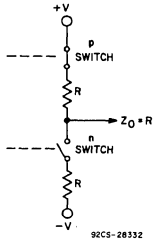

Fig. 3 — Constant output impedance of a buffered gate.
**Buffered**—Fig. 3 depicts the buffered output stage and shows the MOS transistor as switched on with a channel resistance  $R$ ;  $R$  is the same value for the n-switch closed or the p-switch closed.
as buffered (B) types or unbuffered (UB) types by virtue of the squared or rounded transfer characteristics of Figs. 3 and 4, respectively. Even though both types have a single NMOS and single PMOS output transistor, the rounded transfer characteristic of the unbuffered inverters makes them UB types by virtue of:
**Output Impedance**—Refer to Figs. 3 and 4 and accompanying descriptions of the constant output impedance of buffered gates and the variable output impedance of unbuffered gates. Note that both buffered and unbuffered RCA 2-, 3- and 4-input gates are designed to meet the same maximum output impedance; output current ratings ( $I_{OL}$  and  $I_{OH}$ ) have the same minimum limit on RCA data sheets.